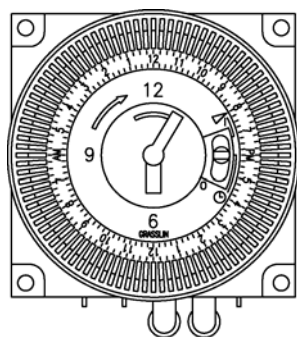
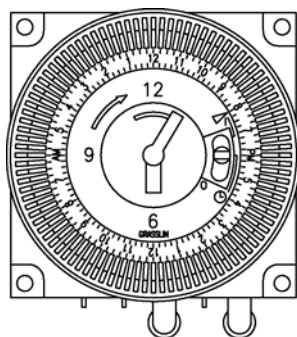
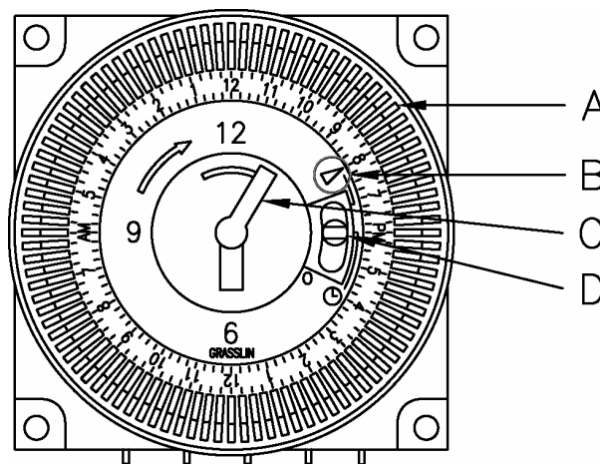

Figure 1:
Figure 2:
Figure 3:
2. Note the wiring of the timer contacts. If your panel is using the normally open contact (Figure 1) the load will be switched off when the tab (Figure 3: A) at the arrow (Figure 3: B) is pushed **in**. If your panel is using the normally closed contact (Figure 2) the control logic will be inverted and the load will be off when the tab at the arrow is pushed **out**.
3. Start by flipping each white tab (Figure 3: A) to the off position. Whether the tab must be pushed in or out is dependant on what you observed in step 2.
5. To synchronize the timer with the time of day, push the white clock hand (Figure 3: C) in a clockwise direction until the marking for the current time of day is aligned with the arrow (Figure 3: B)
6. Check that the manual override switch (Figure 3: D) is in the center position.